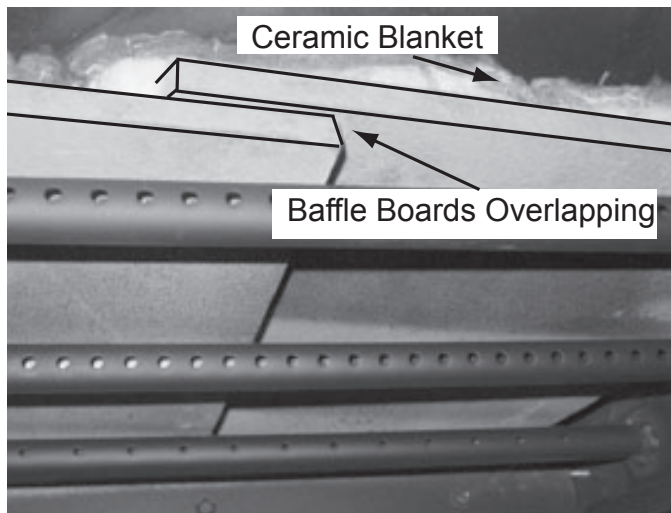

Figure 24.2
3. Once the baffle protection cover has been removed, pull the baffle boards and ceramic blanket forward about 1 inch (25mm) and then overlap the baffles about 1-2 inches (25-51mm). **Figure 24.2**.